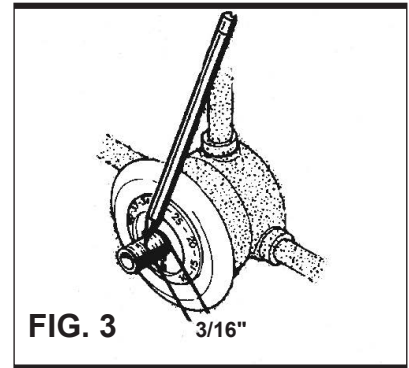

FIG. 3 3/16"
9. Fit the threaded tube (9), and tighten onto cover. Place the cover plate (7) and the dial (11) onto the threaded tube (9). Make a cutting mark 3/16" from the dial face. Fig. 3 Remove the tube and cut it, taking care not to cut inside threaded end. Debur and replace.